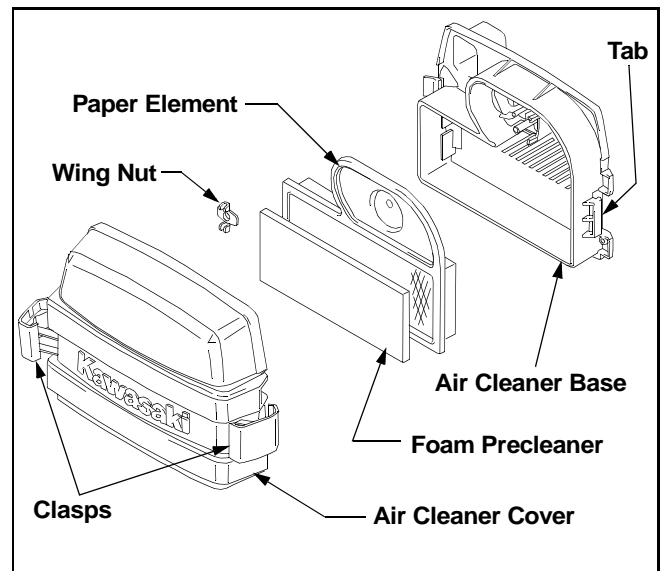

Figure 19
The engine is equipped with a replaceable foam pre-cleaner and paper air cleaner element. See Figure 19. Always examine the air cleaner **before starting the engine**. Check for a buildup of dirt and debris around the air cleaner system. Keep this area clean. Also check for loose or damaged components. Replace all damaged air cleaner components.
- Pull the two clasps away from the sides of the air cleaner cover; then unhook the clasps from the tabs on the air cleaner base. See Figure 19.
- Position the air cleaner cover over the base and hook the clasps behind the tabs on the base. Refer to Figure 19.